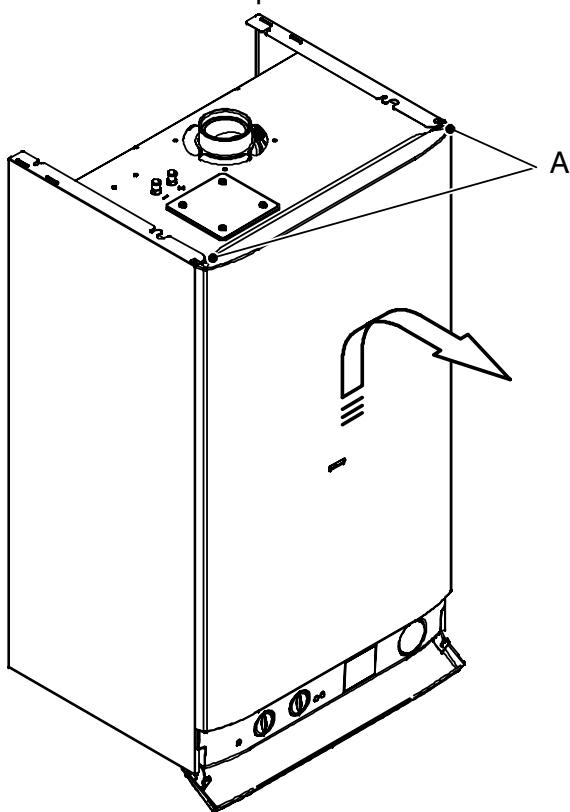

Fig. 9.1
- 1 Loosen the two screws A (Fig. 9.1).